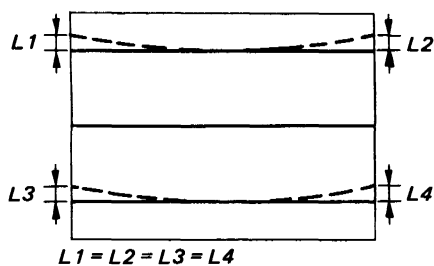

Fig. 3-42
- (16) If necessary, repeat above steps (13) through (15).
- (17) Adjust RV5535 (V PIN (R)) so that "L1", "L2", "L3" and "L4" are equal as shown in Fig. 3-42.